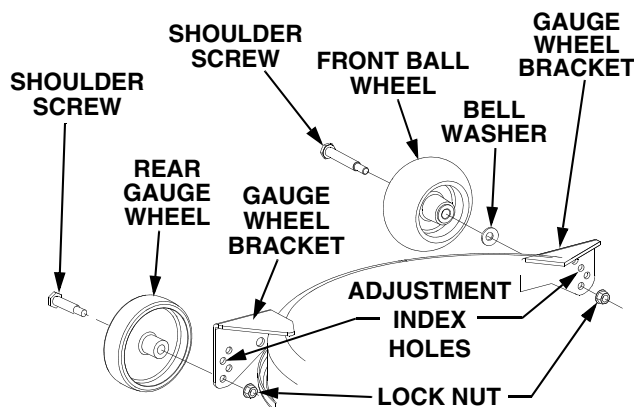

Figure 34
To adjust the height of the gauge wheels, place the tractor on a firm and level surface. Refer to Figure 34, and proceed as follows:
1. Position the tractor and mower deck on a firm, level surface. Raise the gauge wheels to their highest setting in the gauge wheel brackets (Refer to Figure 34).